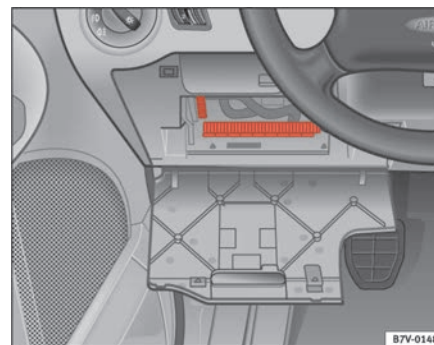

Fig. 162 Left side of dash panel fusebox
- Remove the fuse box cover $\Rightarrow$ fig. 162.